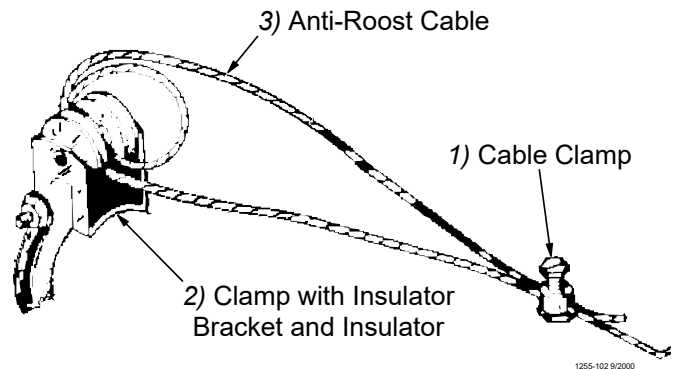

Figure 51. Anti-Roost Cable at the Hopper
7. Start at the hopper end of the line and form a loop around the anti-roost bracket. For best results, make a double loop around the anti-roost insulator in the center groove of the insulator and fasten with a 1/16" cable clamp as shown in **Figure 51.**